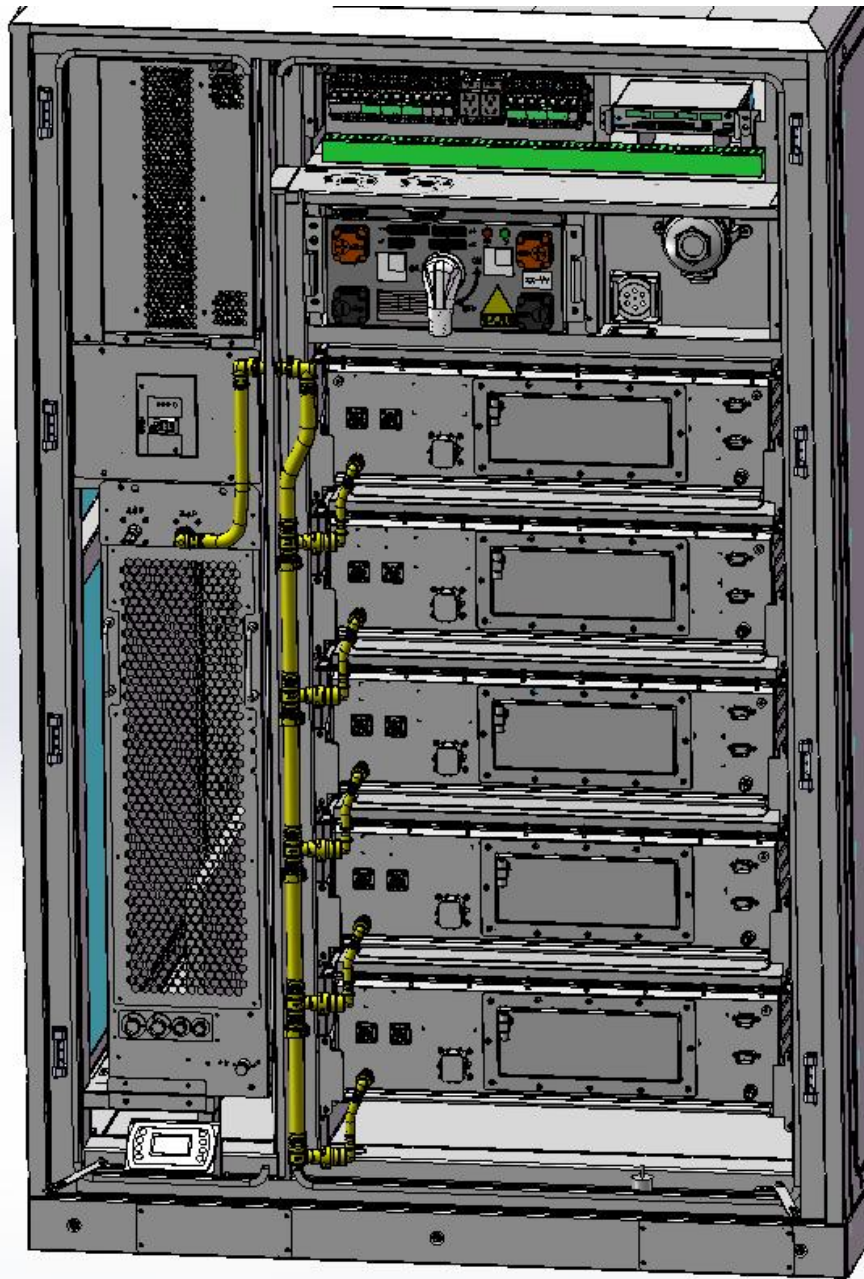
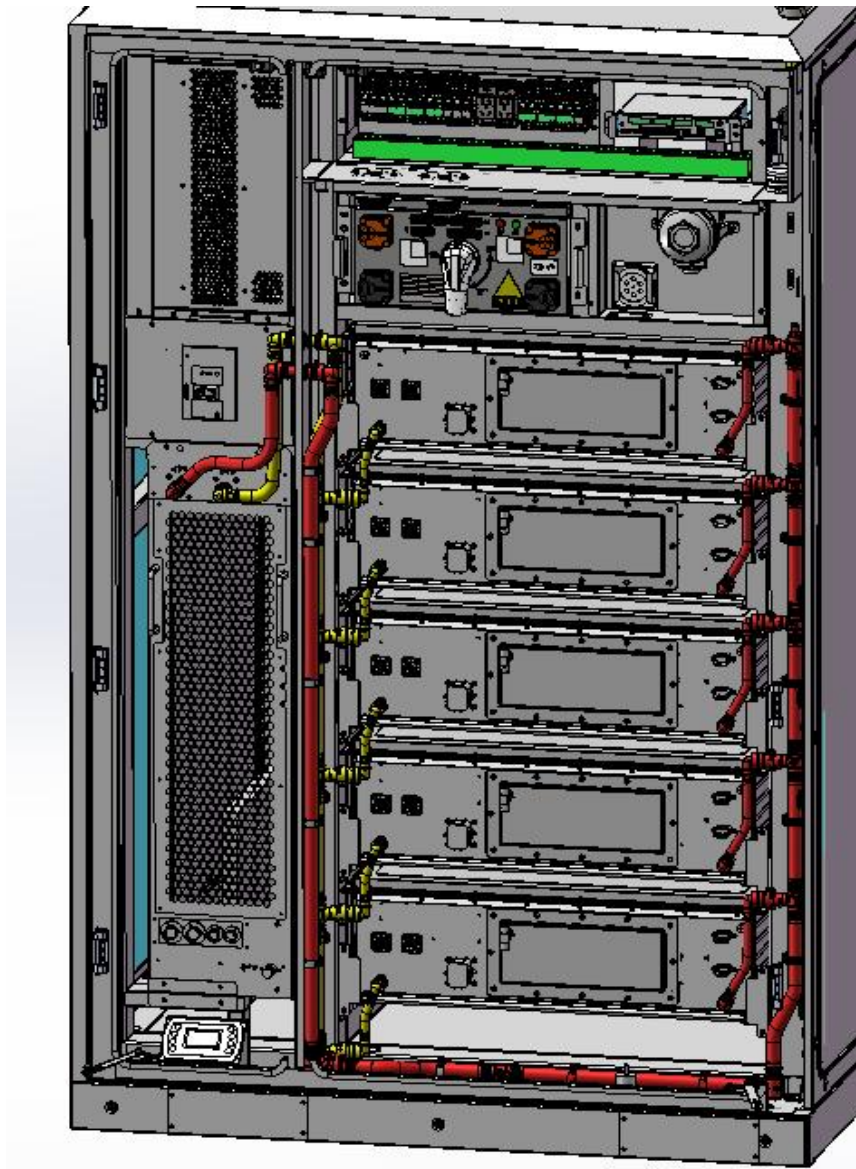

Figure 7-7
Figure 7-8
4. Liquid-cooled tube assembly: Complete the installation of the outlet pipes as shown in Figure 7-7. Complete the installation of the inlet pipes as shown in Figure 7-8.